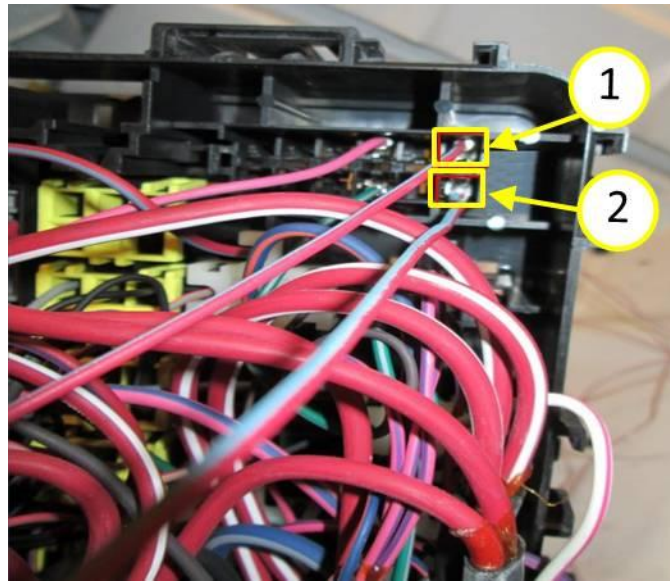

Fig. 3 New Circuit Location
10. Insert the terminal with wire color RD/LB with eyelet end provided in the repair kit into cavity number 53A of the PDC (Fig. 3).